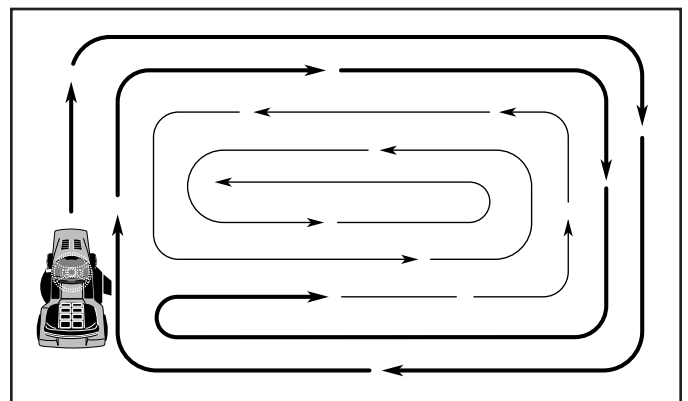

FIG. 11
TO START ENGINE (See Fig. 11)
- When mowing large areas, start by turning to the right so that clippings will discharge away from shrubs, fences, driveways, etc. After one or two rounds, mow in the opposite direction making left hand turns until finished (See Fig. 11).